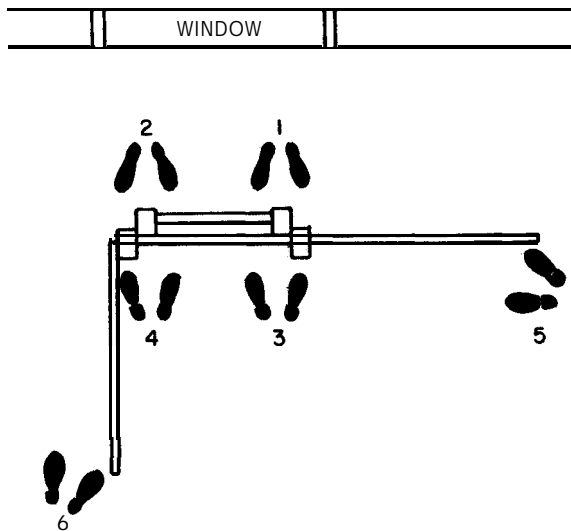

Figure 4-45. Position of tormentor men-Bangor ladder.
(4) Nos. 1 and 2 stand on the heel plates and reach over and grasp a convenient rung as the ladder is raised.
(5) Nos. 3 and 4, facing the top of the ladder, reach down and grasp a common rung, raise the ladder overhead, swing under the ladder, and raise it using every other rung. Nos. 5 and 6 take the weight from Nos. 3 and 4 with their tormentors as soon as possible, pushing the ladder to the vertical position.
(6) When the ladder is vertical, No. 5 will swing to the inside of his tormentor pole and carry it around to a position at right angles to the other tormentor (fig. 4-45). This steadies the ladder and allows it to be set plumb.
(7) Nos. 3 and 4 heel the ladder while Nos. 5 and 6 lower the ladder to the building with the tormentor poles. The tormentors are then set under the ladder to prevent sidesway.
(8) To lower the Bangor ladder, reverse the operations.